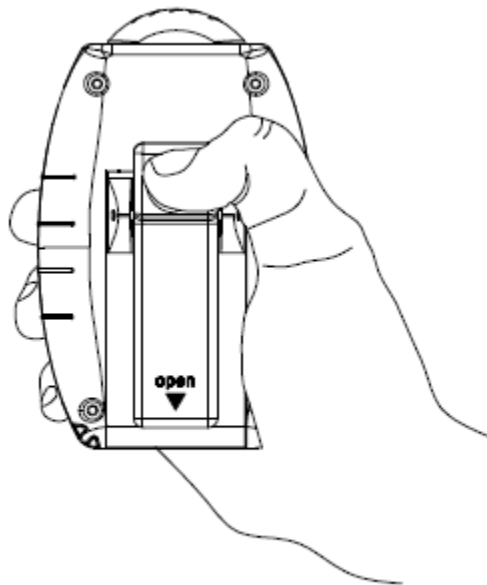

Figure 1
1. Remove the battery door on the back of the sensor, as shown in Figure 1.